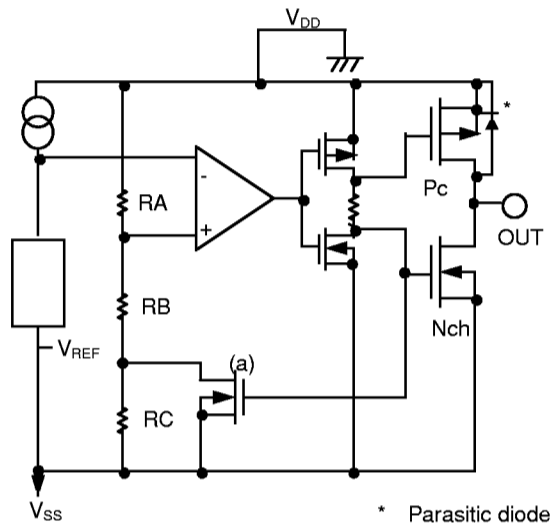
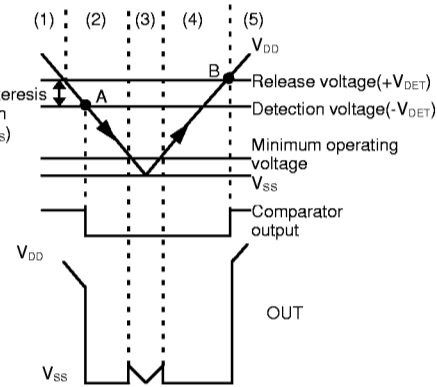

Figure 13
Figure 14
Hysteresis width is the voltage difference between a device's detection voltage and its release voltage (see Figure 14.  $V_{HYS}=B-A$ ). By giving a device hysteresis, erroneous toggling of the output due to noise at the input is avoided.
- (1) When power supply voltage  $V_{DD}$  is greater than the release voltage  $+V_{DET}$ , the Nch transistor is OFF and the Pch transistor ON, causing  $V_{DD}$  (high) to appear at the output. With the Nch transistor of Figure 13 (a) off, the comparator input voltage is  $(RB+RC)/(RA+RB+RC) \times V_{DD}$ .
- (2) When power supply voltage  $V_{DD}$  goes below  $+V_{DET}$ , the output continues to maintain the power supply voltage level, as long as  $V_{DD}$  remains above the detection voltage  $-V_{DET}$ . When  $V_{DD}$  does fall below  $-V_{DET}$  (A in Figure 14), the Nch transistor goes ON, the Pch transistor goes OFF, and  $V_{SS}$  appears at the output. With the Nch transistor of Figure 13 (a) ON, the comparator input voltage is  $RB/(RA+RB) \times V_{DD}$ .
- (3) When  $V_{DD}$  falls below the minimum operating voltage, the output becomes undefined. However, output will revert to  $V_{DD}$  if a pull-up has been employed.
- (4)  $V_{SS}$  will again be output when  $V_{DD}$  rises above the minimum operating voltage.  $V_{SS}$  will continue to be output even when  $V_{DD}$  surpasses  $-V_{DET}$ , as long as it does not exceed the release voltage  $+V_{DET}$ .
- (5) When  $V_{DD}$  rises above  $+V_{DET}$  (B in Figure 14), the Nch transistor goes OFF, the Pch transistor goes ON, and  $V_{DD}$  appears at the output.